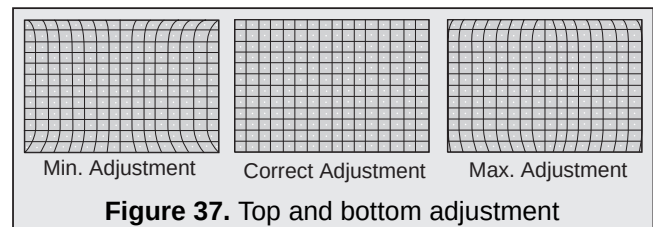

Figure 37. Top and bottom adjustment
2. Adjust "BTMG" and "BTMSL" data to correct lower side of the image (see Fig. 37)